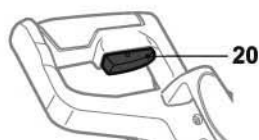

Fig. 14
1. Make sure the on/off switch (20) is in its off position (Fig. 14).